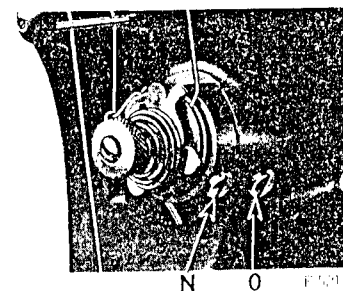

Fig. 16. Adjustments on Thread Controller
For more controller action on the thread, loosen the stop screw (N, Fig. 16) at the right of the tension and set the stop lower, and for less action set the stop higher, then tighten the stop screw (N).
To strengthen the action of the controller spring on the thread, loosen the tension stud screw (O, Fig. 16) at the right of the stop screw and turn the tension stud slightly to the left with a screwdriver, or to lighten its action turn to the right and tighten the tension stud screw (O).